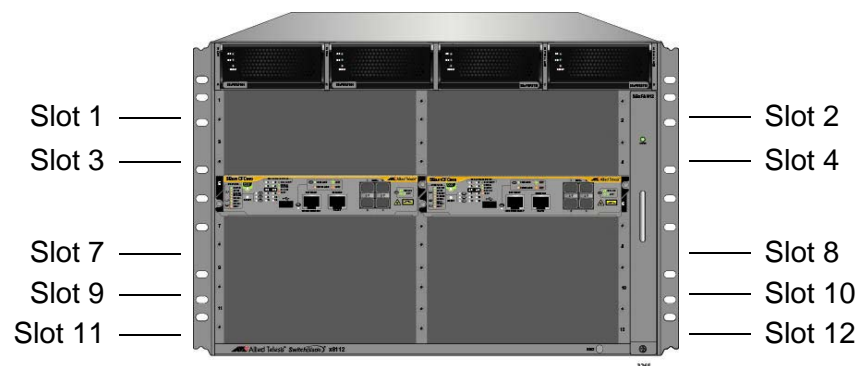

Figure 68. Slots 1 to 4 and 7 to 12 for the Ethernet Line Cards
1. Choose a slot in the chassis for the Ethernet line card. The Ethernet line cards may be installed in slots 1 to 4 and 7 to 12. The slots are shown in Figure 68.